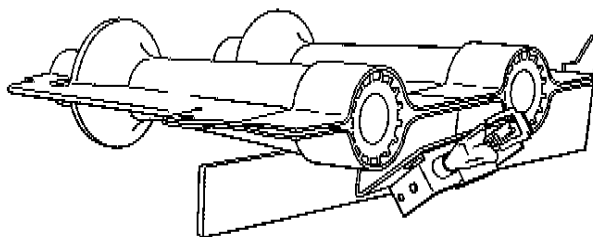

Fig. 3—Position of Pilot Assembly to Burners
9. Check position and alignment of pilot assembly to burners. (See Fig. 3.)
18. Check furnace operation through 2 complete operating cycles. Look through vent openings in burner enclosure to check burners. Main burner flames should be clear blue, almost transparent. Pilot flame should be soft blue in color, well defined, and must provide good impingement on flame sensor. Pilot flame should extend above burner carryover port to provide proper burner ignition. (See Fig. 3, 4, and 5.)
Check pilot assembly and clean if necessary at beginning of each heating season. The pilot flame should be high enough for proper impingement on flame sensing rod and to light burners. Remove any accumulation of soot and carbon from flame sensing rod. (See Fig. 3, 4, and 5.)